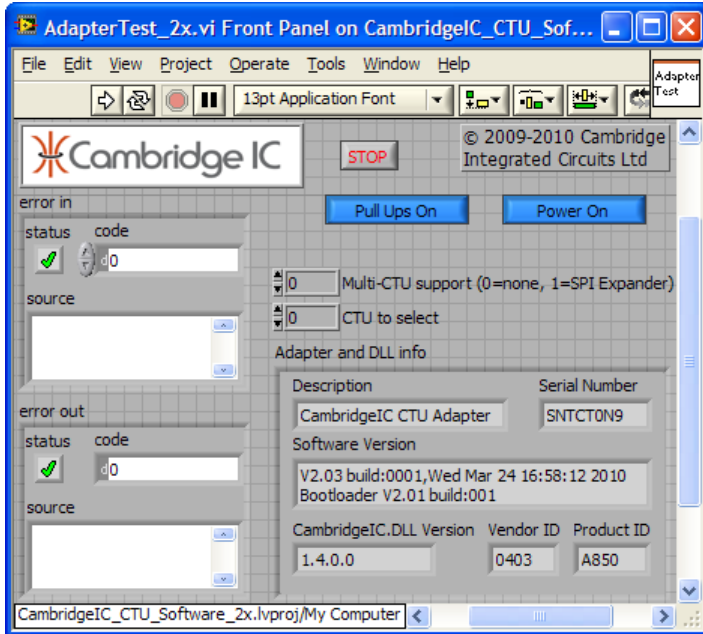

Figure 2 Adapter Test front panel
*AdapterTest* is a simple application that can be used to check communications with the CTU Adapter. The front panel is shown in Figure 2. When run, it configures the CTU Adapter then turns on and off power and pull-ups under control of two buttons. Their state should be reflected in the state of the LEDs on the Adapter's physical front panel.